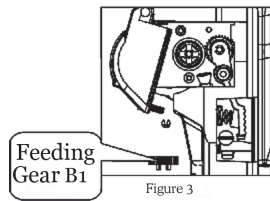

Figure 3
- Push the Reel Stopper to release the Reel Stay (door) and open. (figure 3)
- Remove the E-ring on Feed Gear B1. Press lever and remove feed gear. (figure 3)